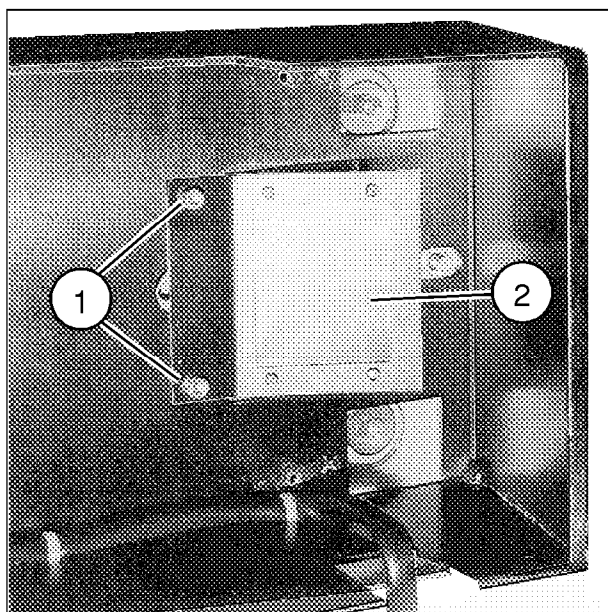

Fig. 4
- Remove the 2 screws (1/Fig.4).
- Remove the filter (2/Fig. 4).